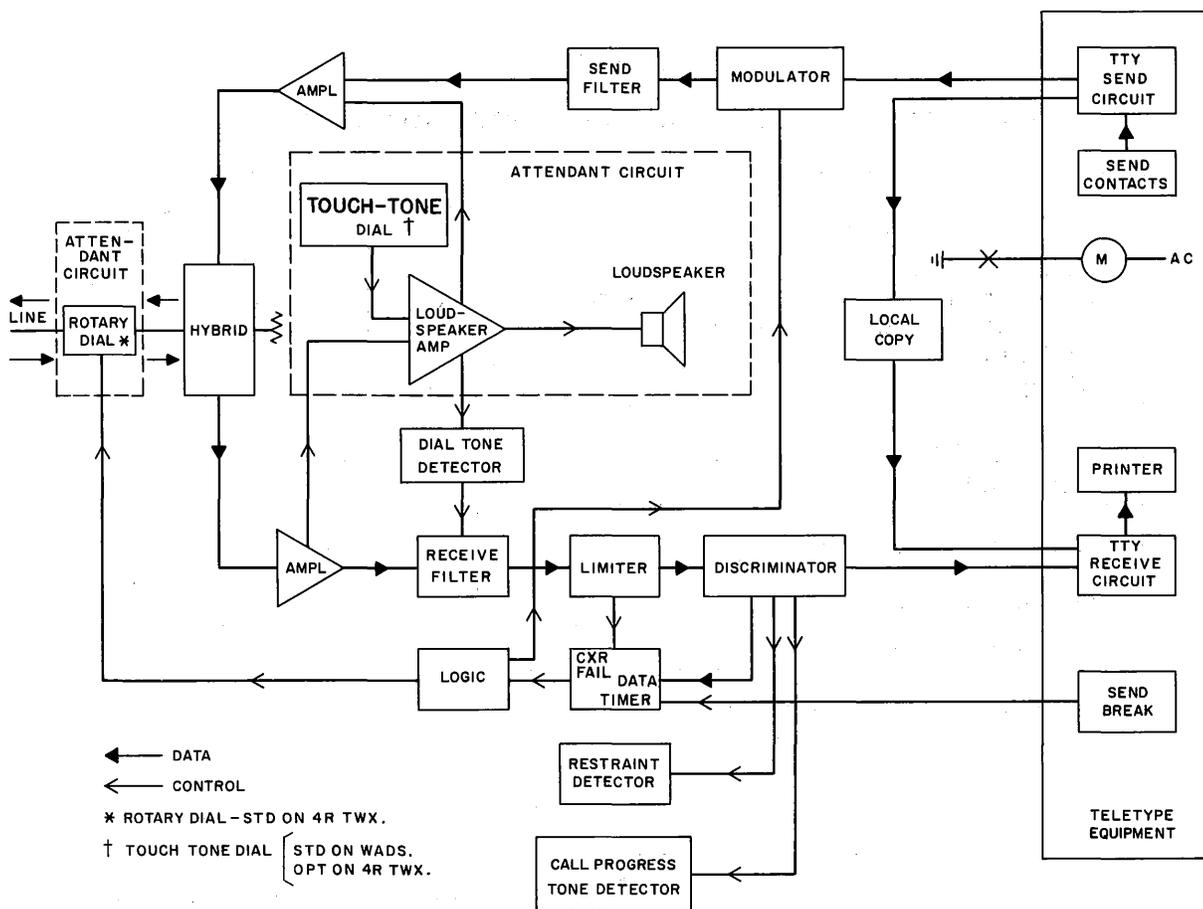

Fig. 6 - Block Diagram, Data Set 105A
2.09 Fig. 6 is a block diagram of data set 105A and shows how the attendant circuit and TTY tie into the data set.